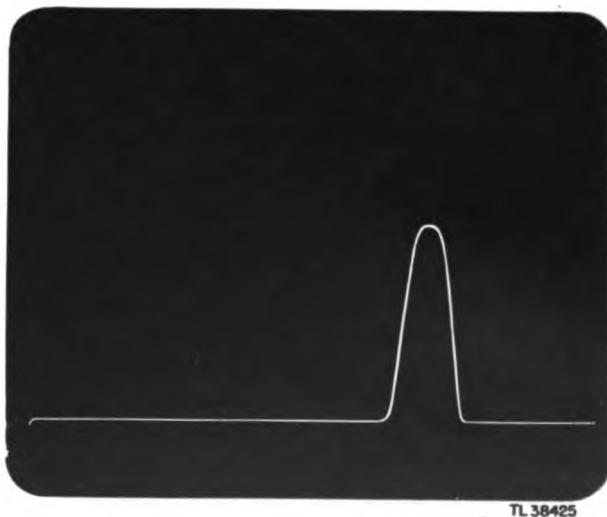

Figure 101. Incorrect range (10K yd. position).
e. If no target appears or if the target is not at the left end of the sweep (fig. 101), the responding signal is not coming from the plane to be challenged. If the target is at a range such that it is not in the notch on Radio Set SCR-545-A, turn the range switch to 100K YD. position. The entire sweep represents 100,000 yards of range, reading from left to right. The range of a responding signal must be estimated from its position on the sweep.